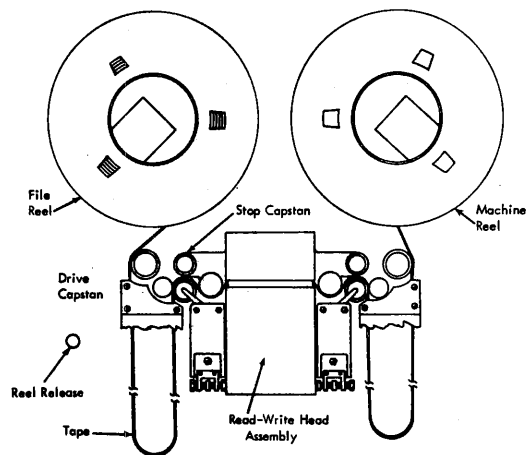

Figure 41. Tape and Reel Arrangement
Figure 41 shows the arrangement of the tape and reels. During reading or writing, tape moves from the file reel, through the left vacuum column, across the read/write head, through the right vacuum column to the machine reel. The tape loop in each vacuum column acts as a buffer for the sudden start and stop motion of the tape. The two tape reels rotate independently. The file reel feeds tape when the tape loop reaches a minimum reserve length in the left vacuum column, and the machine reel winds tape when the loop reaches a point near the bottom of the right vacuum column.
2. Hold the reel release key (Figure 41) depressed and rotate the file reel clockwise, unwinding about 6 feet of tape.